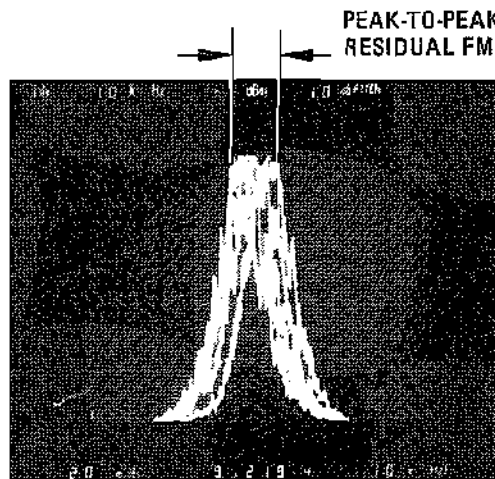

Figure 4-6. Residual FM Display on Spectrum Analyzer
- h. Push start/reset pushbutton five times at approximately one second intervals and store resultant traces on CRT screen. Display should be similar to that shown in Figure 4-6.